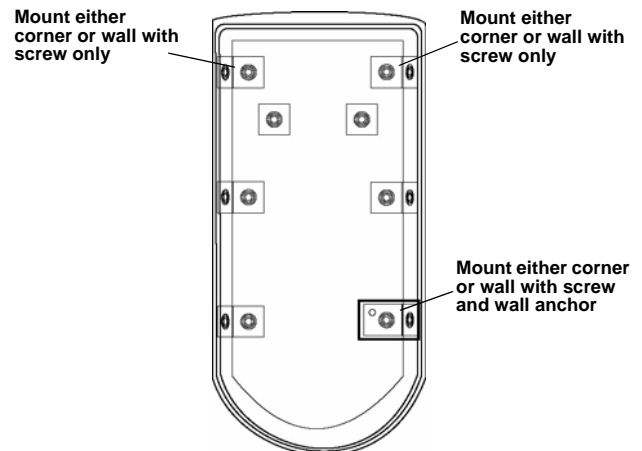

Figure 2 EN1260 mounting back plate
- a. If using the wall tamper function for increased security, mount the housing back plate per Figure 2, ensuring the tamper switch is depressed..